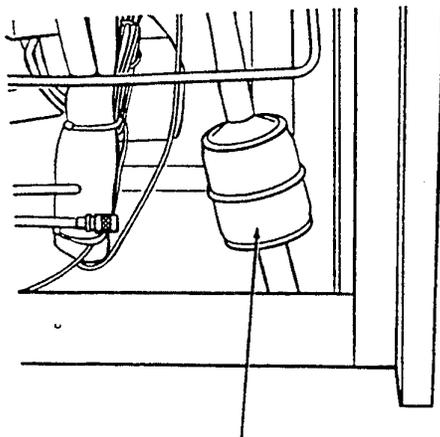

Figure 39. Filter Dryer
7. Replace filter drier using the appropriate brazing material (Figure 39).